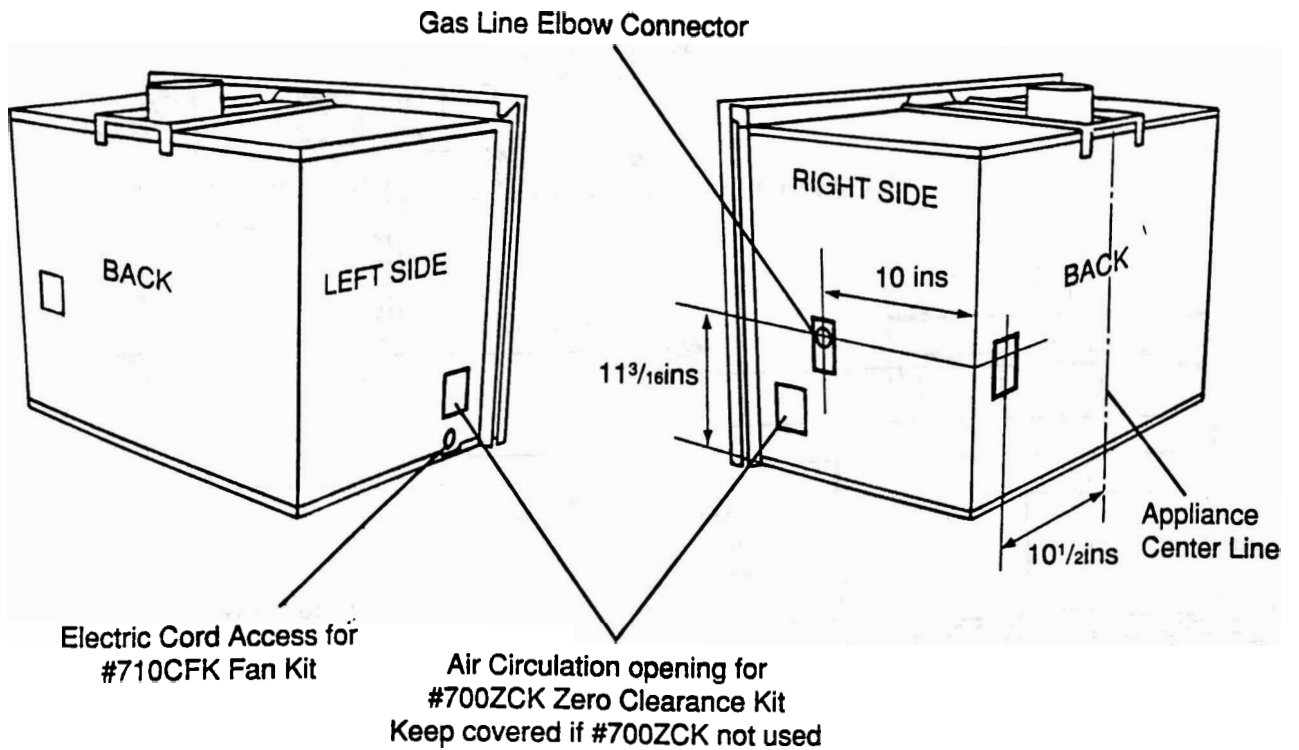

Fig. 4 OPENINGS IN CASE
The supply gas feed line should enter the appliance through one of the openings in the appliance case. Openings are provided at the back and right side. (see fig. 4). See section 4 for gas supply connection details.
4.1. Openings for the gas supply line are provided at the back and right side (see figure 4). The appliance is supplied with a plate covering the back opening. The opening at the right side is uncovered as supplied. If the supply line is to enter through the back, remove the plate and refit to the side opening. Note that the openings at the right and left sides which are supplied covered with metal plates are not for supply pipe entry. These openings should only be uncovered when the #700ZCK zero clearance kit is used.